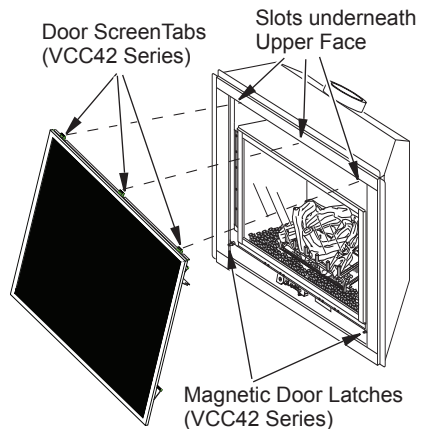

Figure 37 - Removing/Replacing Screen Door Assembly (VCC42 Series)
8. Replace screen door assembly, see removing screen door assembly, see Figure 37 page 24, (VCC42 series).